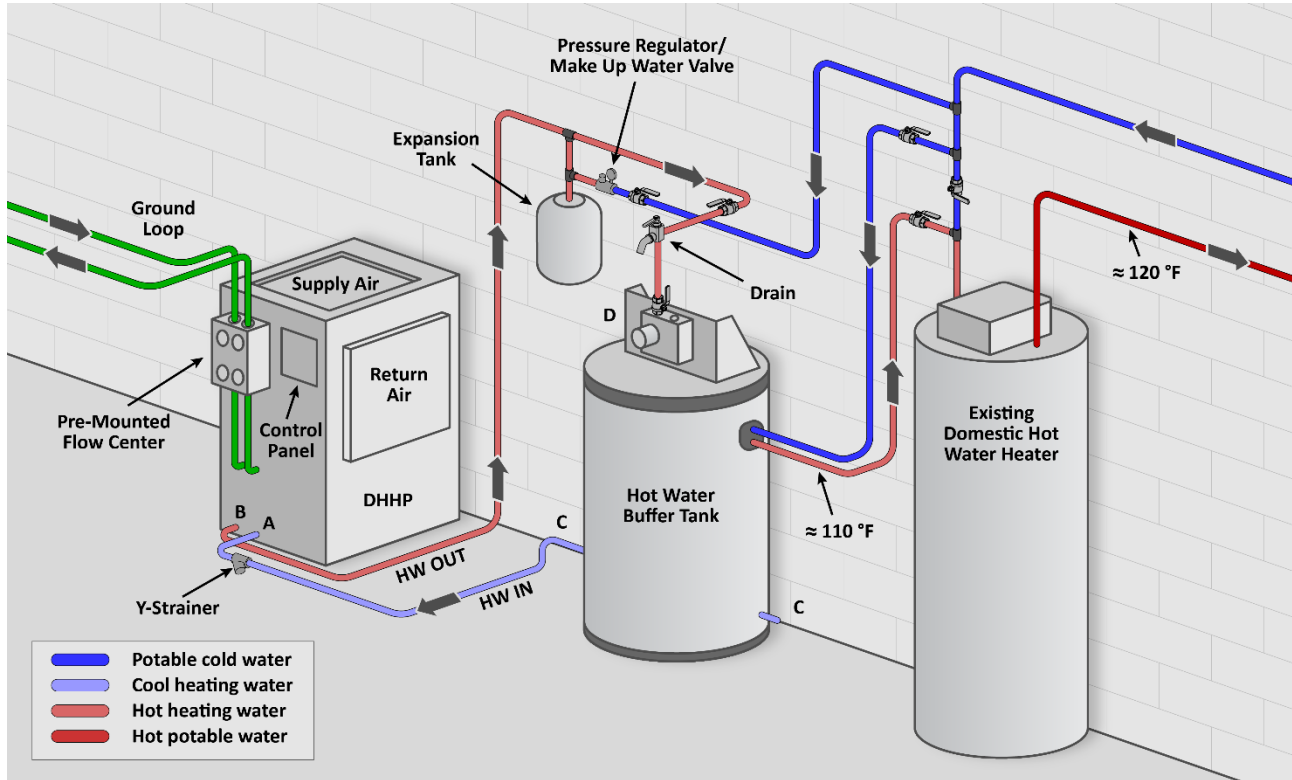

Figure 10: Forced Air Mode Plumbing Diagram
4. The ports at the bottom of the Buffer Tank (**C**) are the same and can be interchanged as needed. (See Figure 10.) Connect either port **C** to port **A**.